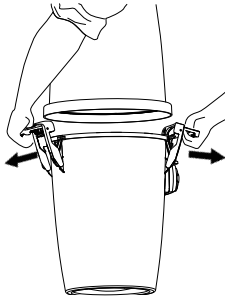

Fig. 22
1. Release the two handles clamping the dust container. The handles are easily unlocked by lifting up the handles until they come to a stop. When you pull the handles outwards away from the cleaner, the container is released. Fig. 22.
1. Release the two handles clamped on to the dust container. The handles are easily unlocked by lifting up the handles until they come to a stop. When you pull the handles outwards away from the cleaner, the container is released. Fig. 22.